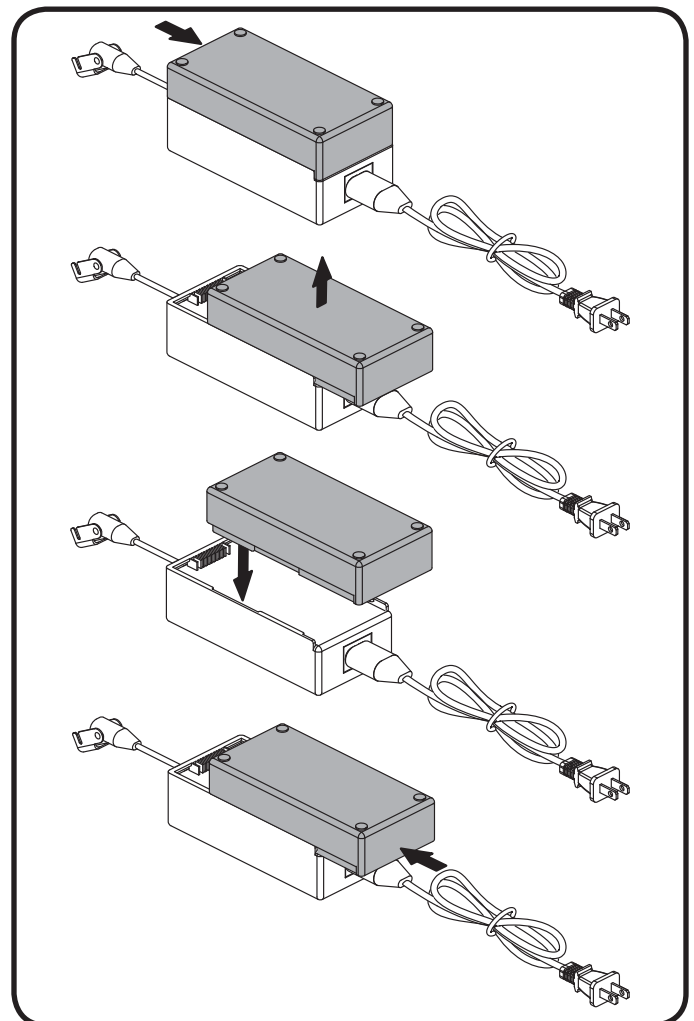

Figure 4.5 Lithium-Ion Battery Replacement
2. Position the external transformer so that the lithium-ion battery is facing upward (**fig. 4.5**).
5. Place the new lithium-ion battery on top of the external transformer with the securement grooves toward the external transformer (**fig. 4.5**).